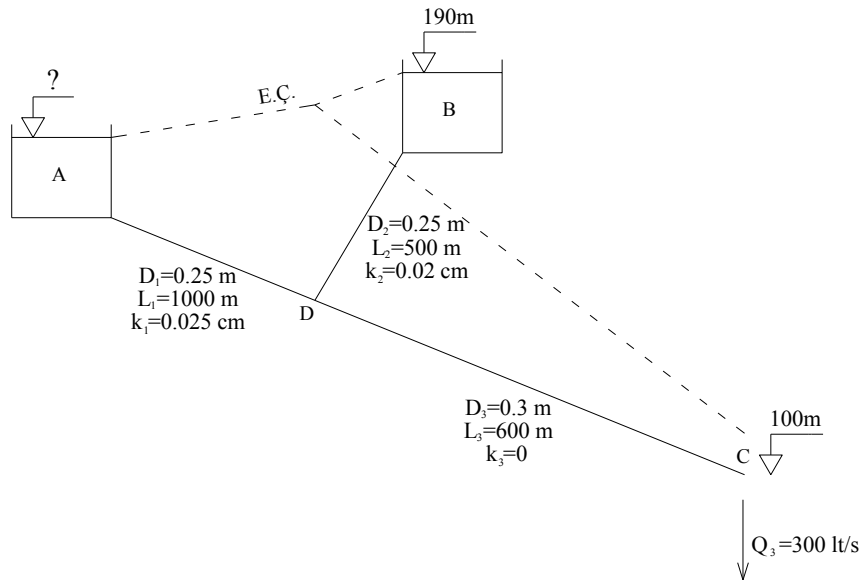

Figure 7.16
**Problem 7.16:** The discharge of the pipe DC is 300 lt/s and the pipe is open to atmosphere at C in the system shown in Fig. 7.16. If the outlet of the pipe is at 100m;